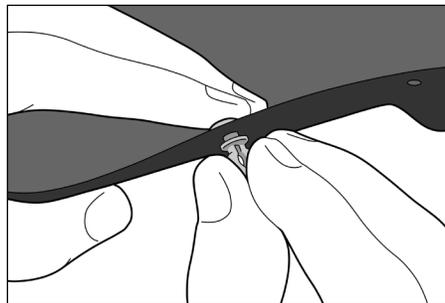

Fig. 12
2. Screw (1) BoS Pin onto the protruding tip of the screw several turns. (Fig. 12).